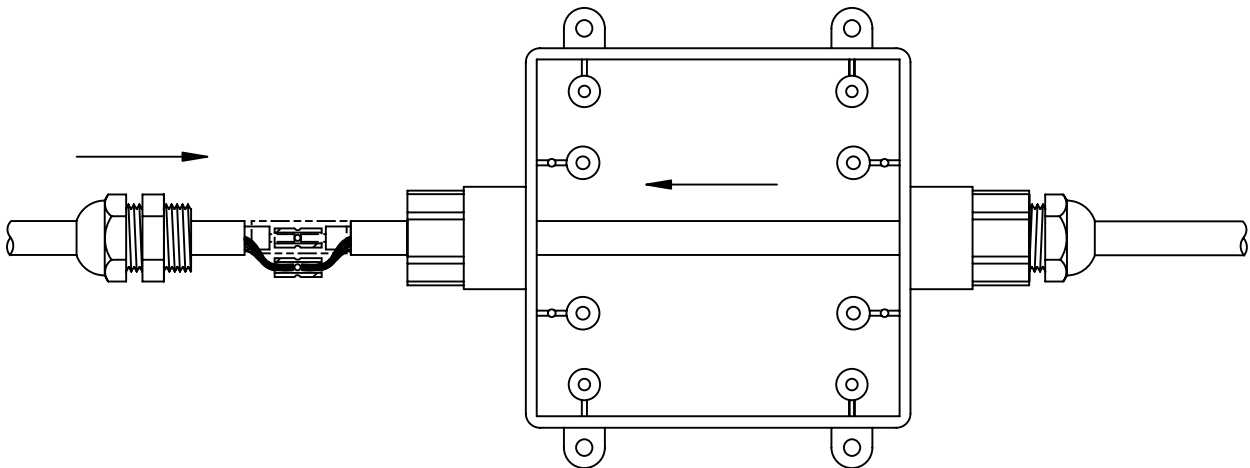

Figure 6.31 – Positioning Housing and Strain Relief
- **Step 7:** Slide the housing over the splice. Slide the strain relief up and screw it into the enclosure and tighten. Center the splice inside the box and tighten the strain reliefs. See Figure 6.31.